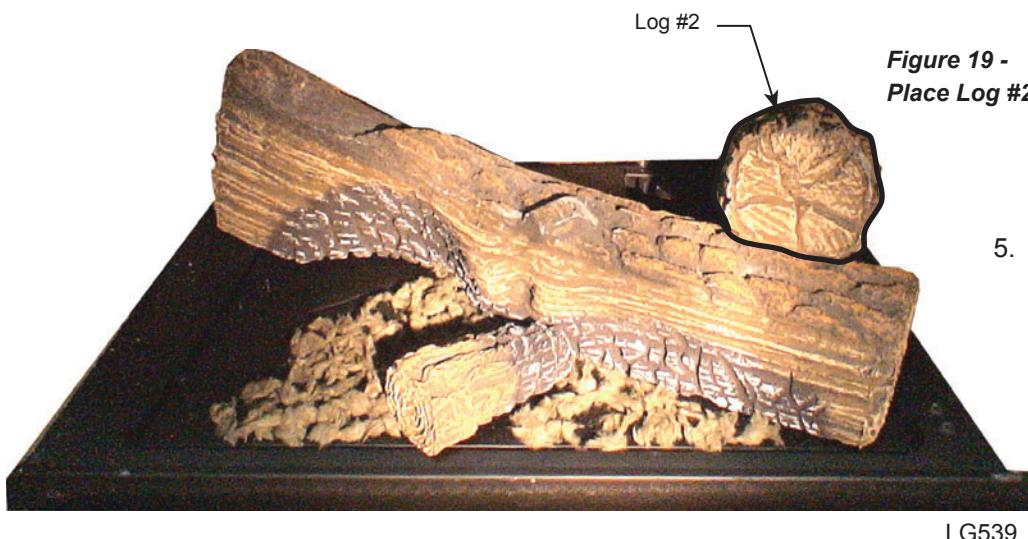

Figure 19 -
5. Position log #2 so that it is resting on log #1. *Figure 19*